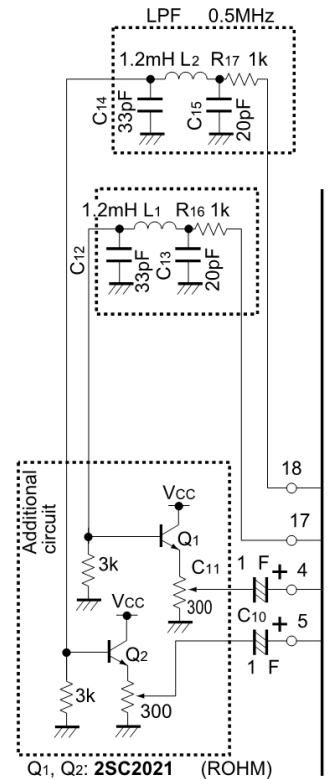

Fig. 15
(2) The VCXO remains in a free-running state except during superimposition.
(4) Pin 4 ($B-Y_{IN}$) and pin 5 ($R-Y_{IN}$) have high impedance and are susceptible to the effects of noise and other external factors during pattern generation. For this reason, we recommend adding the circuit in Fig. 15 to lower the input impedance. Adding this circuit can also reduce carrier leakage.